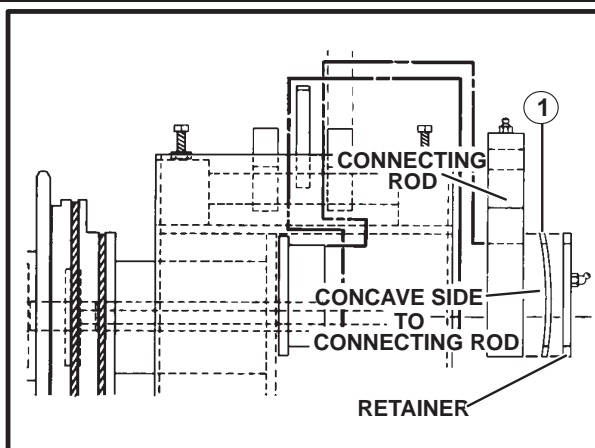

FIGURE 1
2. Install the connecting rod, seal ring **1** (concave side toward the connecting rod) and retainer. (Figure 1)